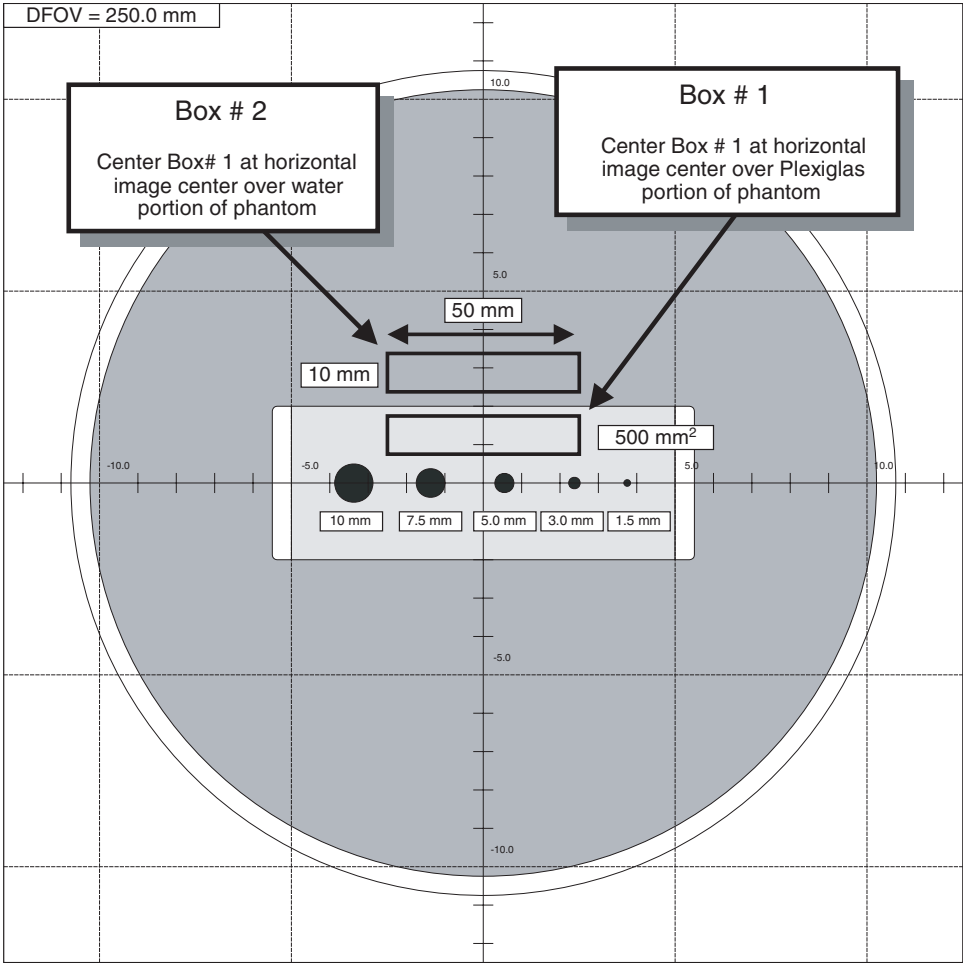

Figure 10-10 20cm QA#2 Phantom Low Contrast Detectability - Building and Placing Reference ROI Boxes
If required, magnify the image to adjust to proper dimensions. (See Figure 10-10 for additional ROI size and placement information.)
If required, magnify the image to adjust it to the proper dimensions. (See Figure 10-10 for additional ROI placement information.)
- a.) Adjust the Window setting of the image to 20 by simultaneously holding the center mouse button down while dragging the cursor to the left. Adjust the level for a viewable image(as shown in Figure 10-10).
- b.) Position the reference ROI box built in step 2 on the plexiglas portion of the QA#2 phantom image without touching the water portion or the hole pattern (see Figure 10-10).
- e.) Reposition Box #2 over the water portion of the QA#1 phantom image and directly above Box #1 (Box # 2 position in Figure 10-10).
- a.) While viewing images 1, 3, 5, and 7, indicate in Table 10-8 the number of holes that are visually distinguishable (see Figure 10-10).